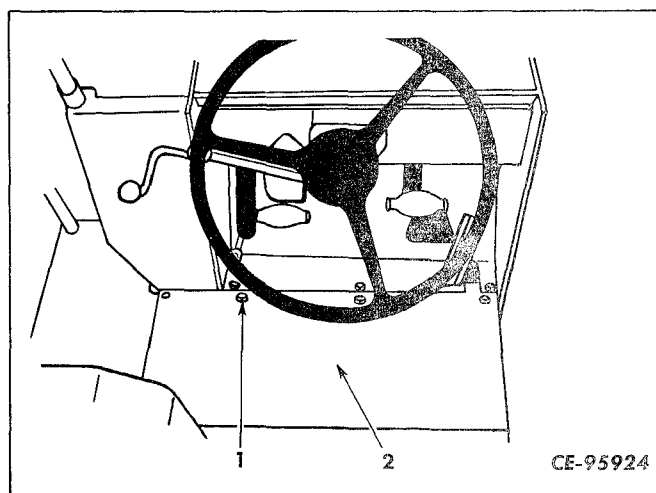

Figure 4-8
Drain the transmission fluid. Remove cap screws (1, Fig. 4-8) that attach rear floor-board (2) to frame.